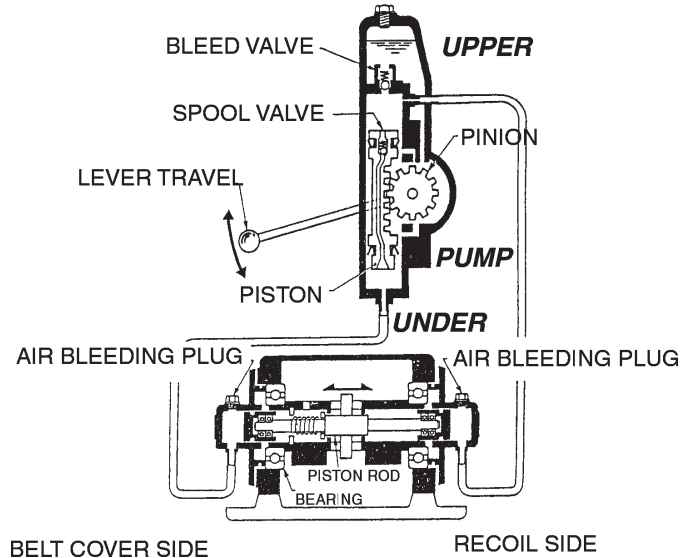

Figure 29. Hydraulic System
3. Remove bleed plug at the cylinder of the vibrator (right belt cover side, forward travel circuit) (Figure 29). After a while, oil will flow out of the bleed plug. When aeration disappears, reinstall the plug, tightening it securely.